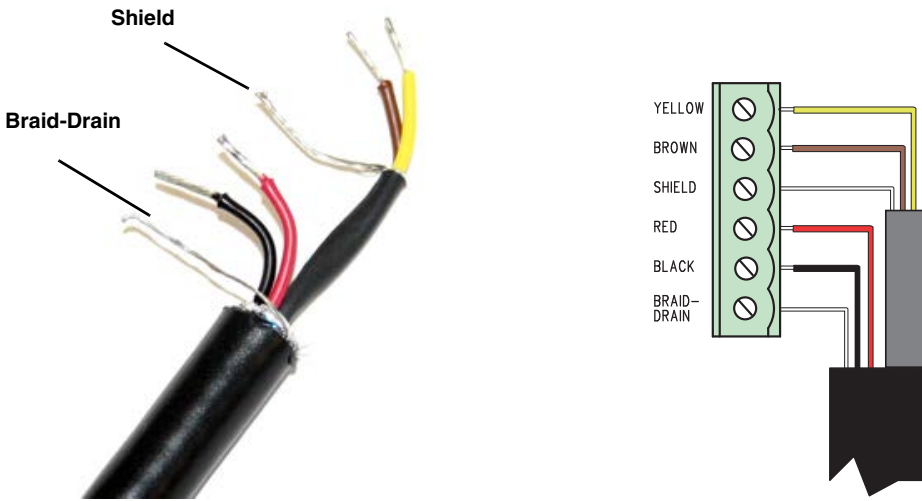
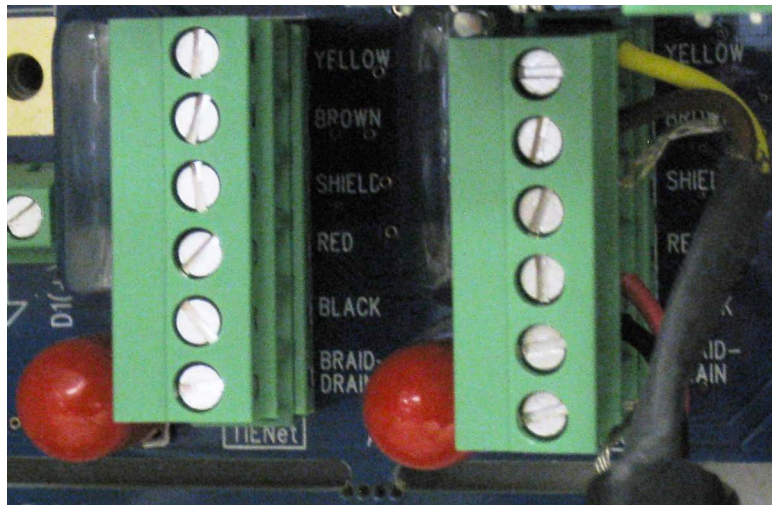
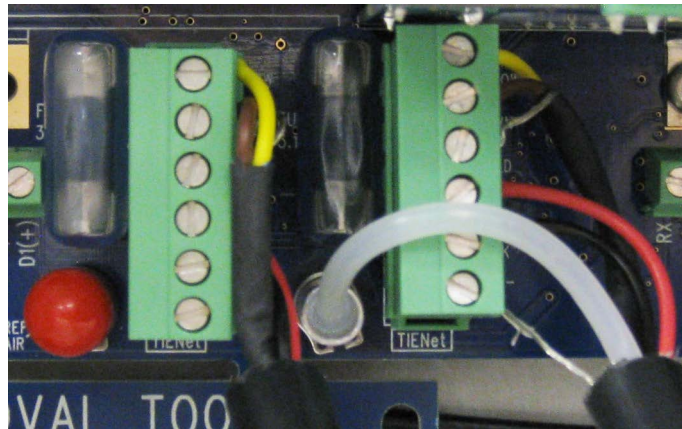

Figure 2-3 TIENet Device terminal connections
Figure 2-4 Attach wired terminal strip to case board socket
Figure 2-5 Position and secure the cable
4. Attach the wire ends to the terminal strip as shown in Figure 2-3, then press the terminal strip back down into its socket on the case board, as shown in Figure 2-4, taking care not to strain any wire connections. Gently tug each wire when finished, to verify secure connection to the screw terminals.
5. Press the terminal strip back down into its socket on the case board, as shown in Figure 2-5, taking care not to strain any wire connections. The 310 Ex sensor cable does not include a reference air connection (Figure 2-4).